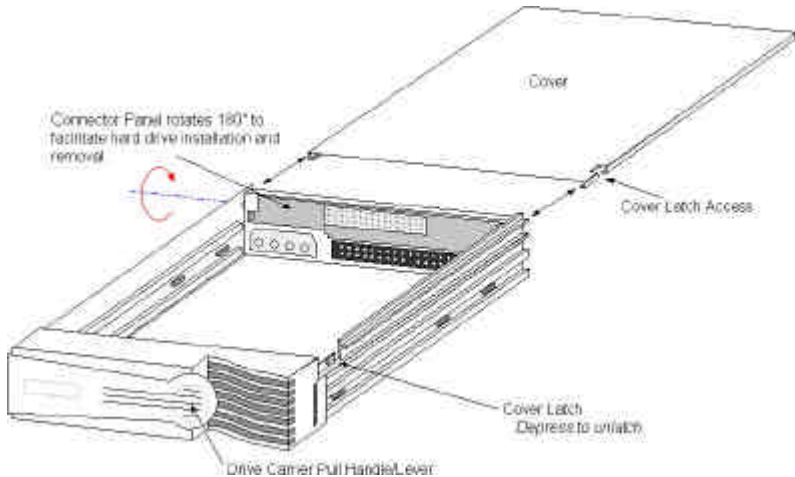

Figure 3. Drive Carrier Assembly
1. Using the provided key, unlock the drive carrier by turning the key in the lock 90° counterclockwise (see Figure 3).
2. Remove the drive carrier from the housing assembly by firmly pulling on the drive carrier's handle (see Figure 3).
3. Depress the Cover Latch and slide off the drive carrier access cover (see Figure 3).
8. Lock the carrier into place by turning the key in the lock 90° clockwise (see Figure 3). Power will not reach the hard drive unless the carrier is locked into place.
9. Lock the carrier into place by turning the key in the lock 90° clockwise (see Figure 3).